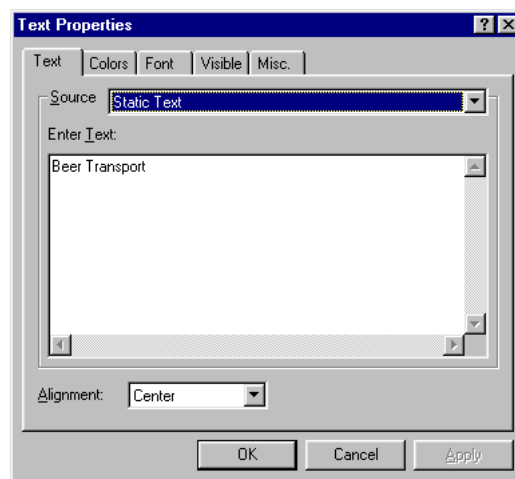

Figure 6.8: The text tab of the text properties dialog box
- ▶ specify ‘Beer Transport’ as the static text on the **text** tab of the **Text Properties** dialog box (see Figure 6.8) ,